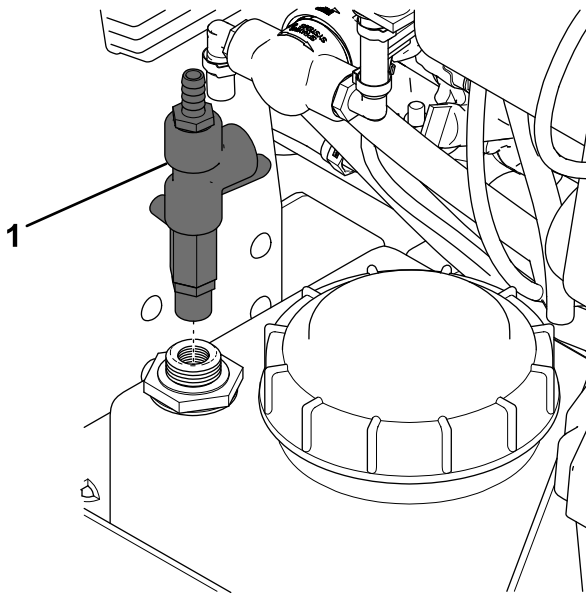

**Figure 7**
1. Remove the pump hose from the fitting on the tank (Figure 7).
2. Disconnect the hose fitting from the tank and discard it (Figure 7).